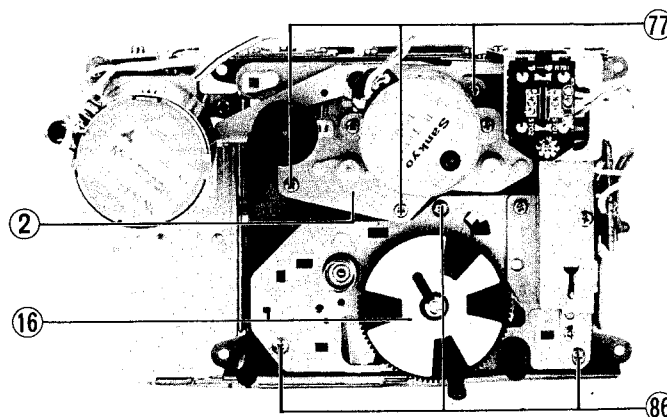

Fig. 14
**K. Reel disk ass'y 2** (Fig. 14)
**L. Drive gear ass'y 16** (Fig. 14)